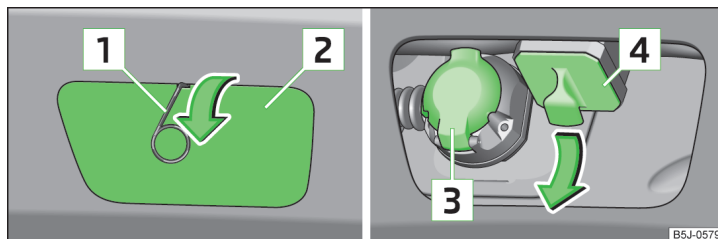
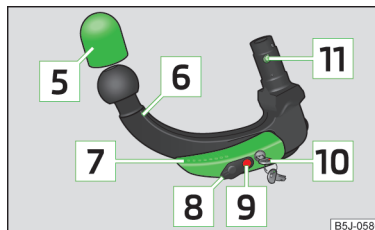

Fig. 123 Remove cover cap: on the rear bumper / for the receiving shaft
Fig. 124
Support for the towing device » Fig. 123 and » Fig. 124
- Remove the cover in the rear bumper **2** » Fig. 123 on page 126 in the direction of the arrow using the tool for removing the wheel trims.
- Pull off the cover for the mounting recess **4** » Fig. 123 on page 126 in the direction of the arrow » **!**.
Store cover **2** and cover **4** » Fig. 123 on page 126 in a suitable place in the luggage compartment after removing them.
- Fit the cover for the mounting recess **4** » Fig. 123 on page 126 in the opposite direction to the arrow.
- Offer up the cap to the rear bumper **2** » Fig. 123 on page 126 aligning it with "check mark" in the lower bumper area.